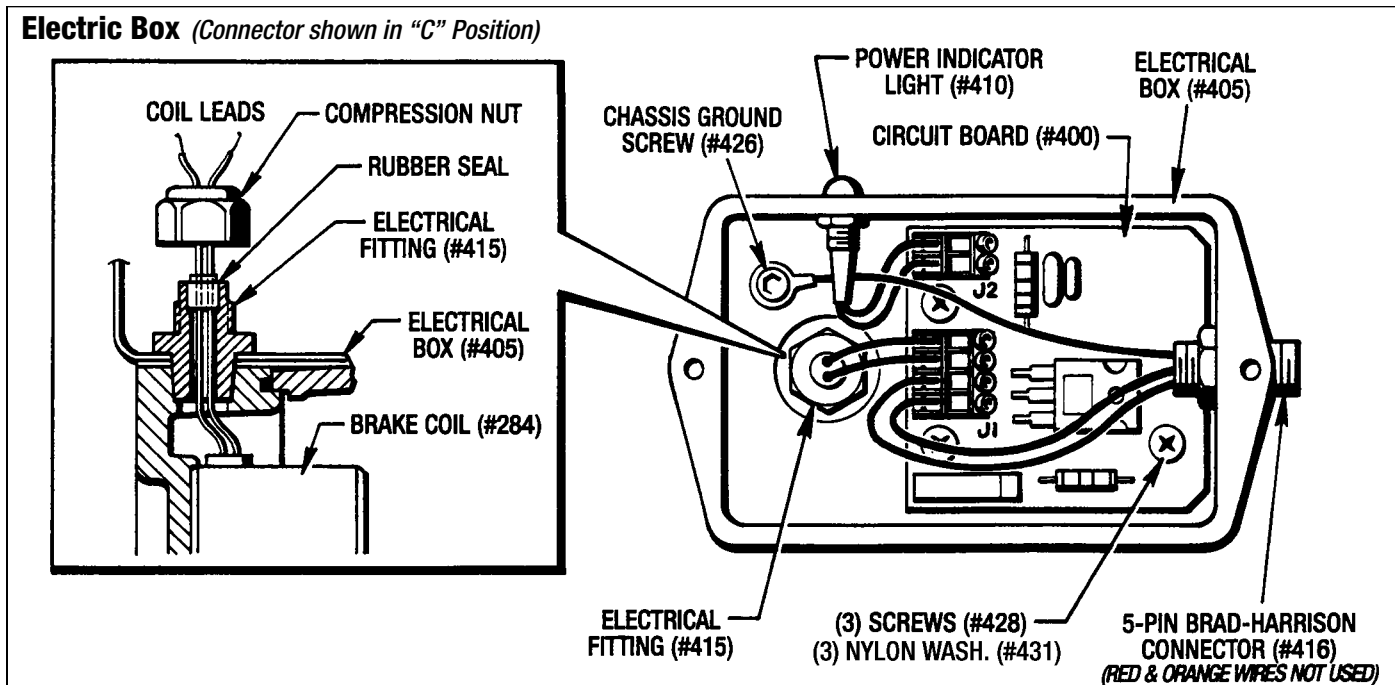

Figure 7.3 - Electric Box with Cover Removed
(See Figure 7.3)
(See Figures 7.3, 8.2 and 8.3)
11. Dis-connect the coil leads from J1 terminal strip located on the Circuit Board (#400). Also remove the compression nut from the Electrical Fitting (#415) and pry the rubber seal out of the fitting and off of the coil leads. (See Figure 7.3.)
3. Attach the Coil (#284) with (1) Lockwasher (#275) and (1) Screw (#153). Make sure that the coil wires are at the top of the brake. **Torque to 60 Ft. Lbs.**
4. Place the rubber seal on the coil leads and pull the wires through, taking up all the slack in the wires. Seat the rubber seal into the threaded part of the Electrical Fitting (#415). Tighten down the compression nut. (See Figure 7.3)
7. Set the Armature Plate (#56) and Armature Ring (#58) over the (3) Driver Pins (#195) and in position on the springs.